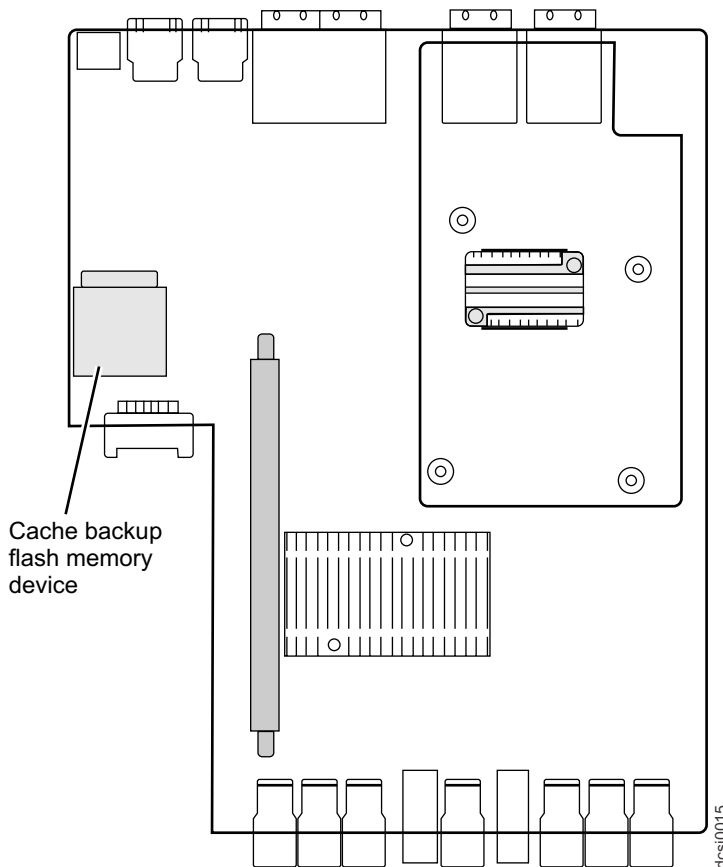

Figure 68. Cache backup flash memory device location
12. Remove the cache backup flash memory device from the controller and install in the new controller. Figure 68 shows the location of the of the cache backup flash memory device on controller board.